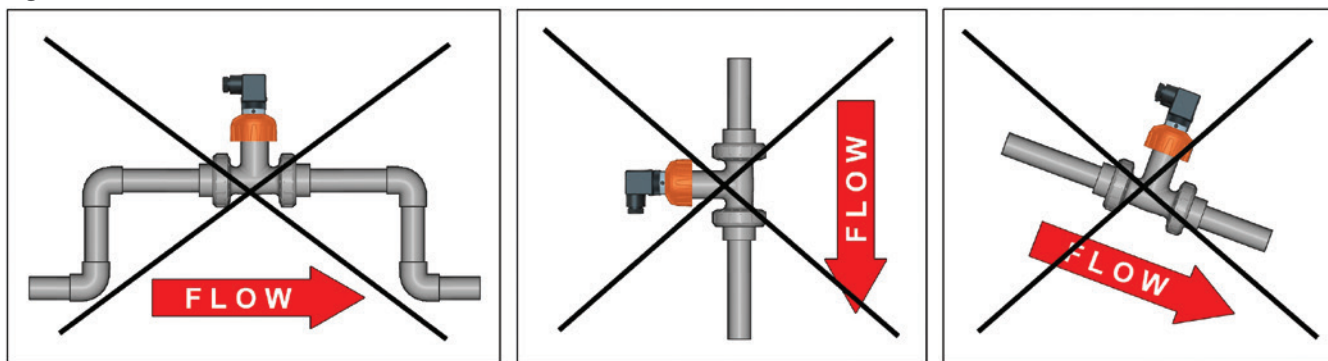

Fig. 3
- The three installations shown in **Fig.3** should be avoided, unless there is absolute certainty that no air bubbles are present in the pipe.